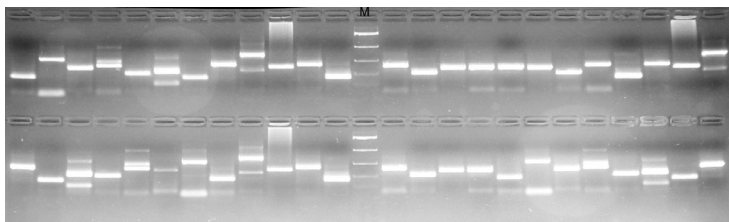

**Figure 2. “Loss-less” conversion technology.**
- virtually no loss of DNA (Figure 2)
- improved sensitivity (Figure 2 and 3)